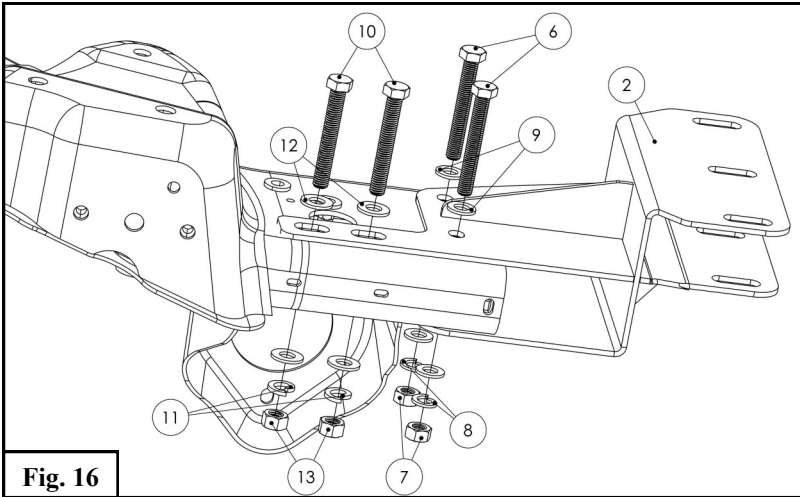

Fig. 16
5. Loosely install mounting brackets (2 & 3) using M12 and 1/2" hardware. **Note:** Driver side bracket shown. See **Figure 16**.